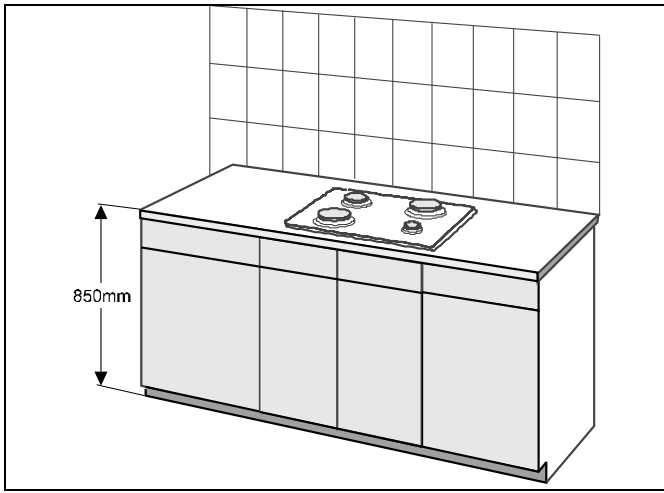

Fig.2
3. The appliance should be installed in a kitchen worktop not higher than 850 mm. The room wall adjacent to the hob should be made of non-flammable materials (fig. 2).